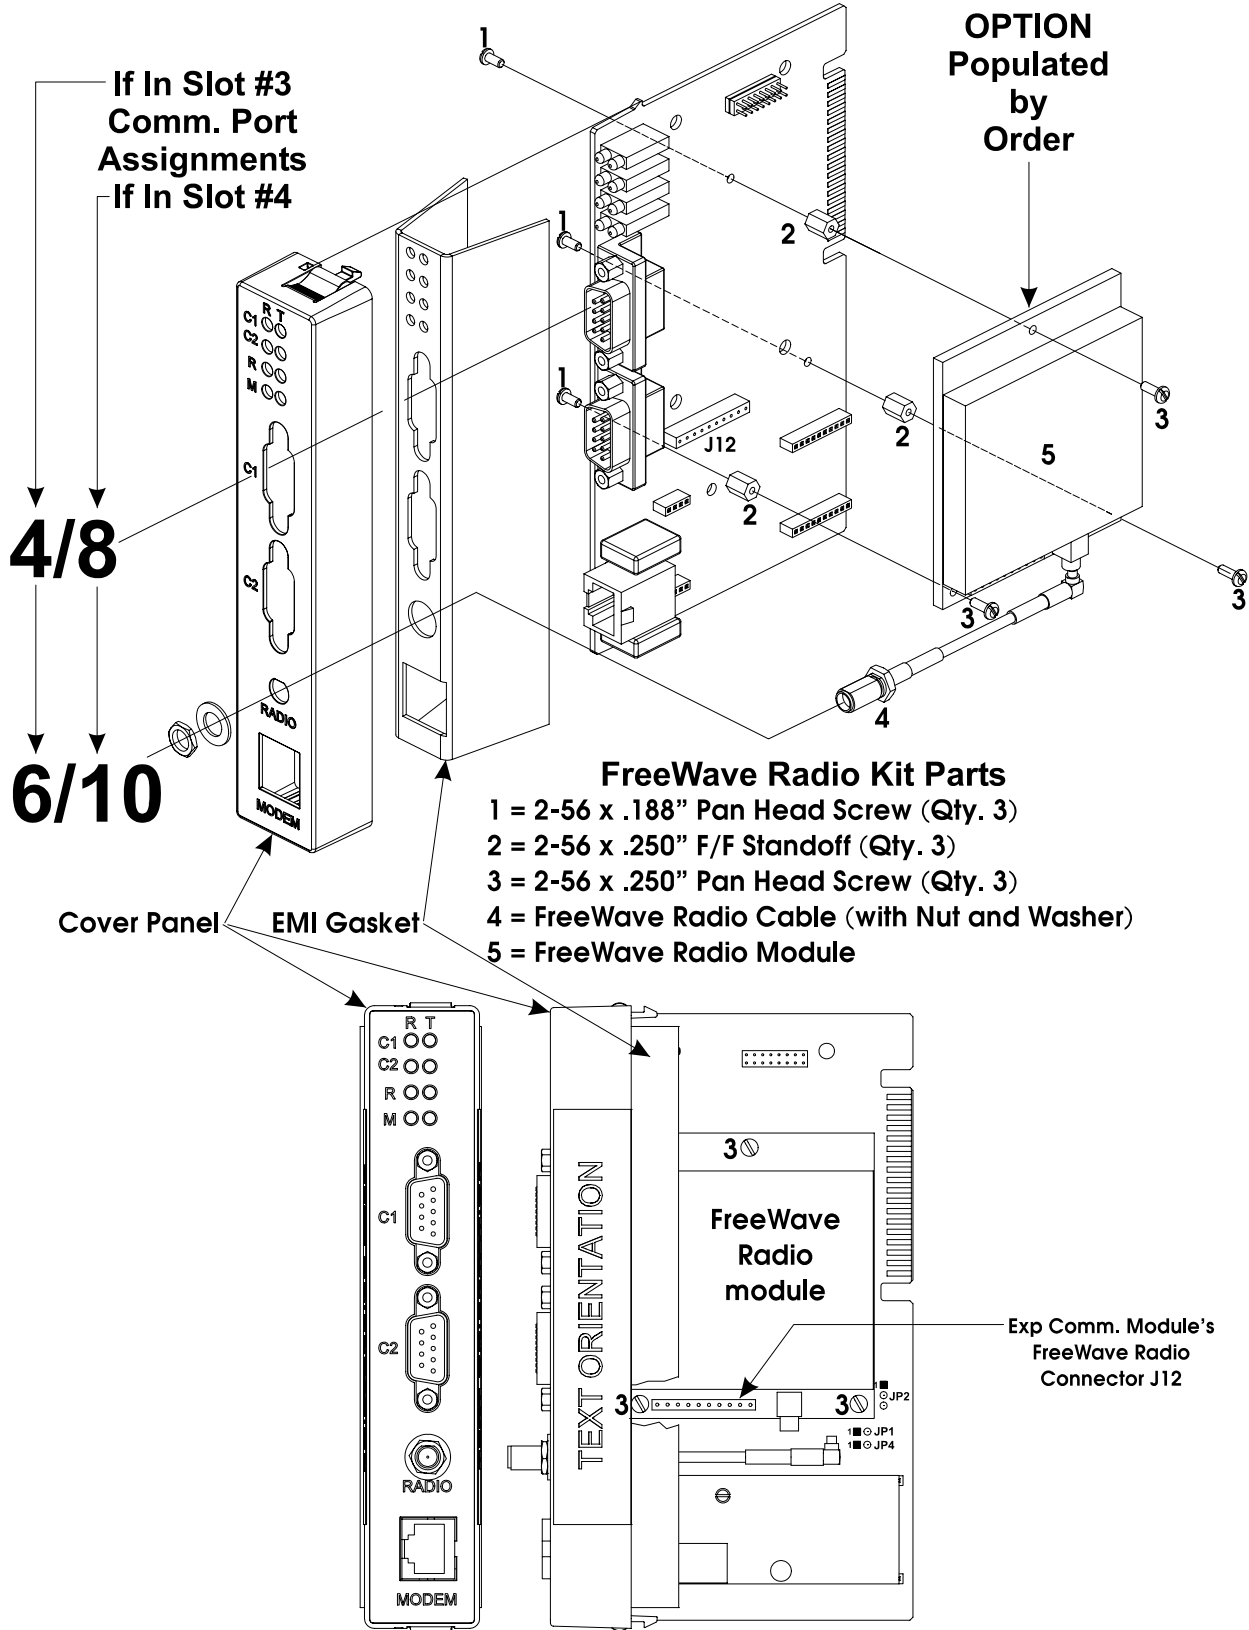

Figure D2 - FreeWave Radio Installation Diagram
- 2-56 x .188" Pan Head Screw (Qty. 3) - Fig. D2 Reference = 1
- 2-56 x .250" F/F Standoff (Qty. 3) - Fig. D2 Reference = 2
- 2-56 x .250" Pan Head Screw (Qty. 3) - Fig. D2 Reference = 3
- FreeWave Radio Cable (with Nut and Washer) - Fig. D2 Reference = 4
- FreeWave Radio Module - Fig. D2 Reference = 5
2. Grasp the Expansion Comm. Module with one hand. Squeeze both sides of the Cover Panel (just below the unit's top) and pull up and away to release the Cover Panel and EMI Gasket from the PCB (see Figure D2). **Note: If necessary, a small screwdriver can be used to pry the Cover Panel from the PCB.**
3. Install the three (3), F/F Standoffs (item2) to the rear of the FreeWave Radio via three (3), 2-56 x .250" Pan Head Screws (item 3) (through the PCB).
4. Mount the FreeWave Radio to the Exp. Comm. Module making sure that the interface connectors (J12 on Exp. Comm. Module) align. Secure the FreeWave Radio to the Exp. Comm. Module via three (3), 2-56 x .188" Pan Head Screws (item 1).
5. Plug the radio end of the Antenna Cable (item 4) into the FreeWave Radio's RF Connector.
6. If installing an optional MultiTech Model MT5634SMI Modem, proceed to Section D2.1 prior to installing the Antenna Cable to the Cover Panel; if not, install the antenna end of the Antenna Cable (item 4) through the EMI Gasket and Cover Panel. Secure the Antenna Cable to the Cover Panel via the Antenna Cable's washer and nut.
3. Install the four (4), F/F Standoffs (item 2) to the rear of the MDS Transnet Radio via four (4), 6-32 x .250" Pan Head Screws (item 3) (through the PCB).
4. Mount the MDS Transnet Radio to the Exp. Comm. Module making sure that the interface connectors (J11 on Exp. Comm. Module) align. Secure the MDS Transnet Radio to the Exp. Comm. Module via four (4), 6-32 x .188" Pan Head Screws (item 1).
5. Plug the radio end of the Antenna Cable (item 4) into the MDS Transnet Radio's RF Connector.